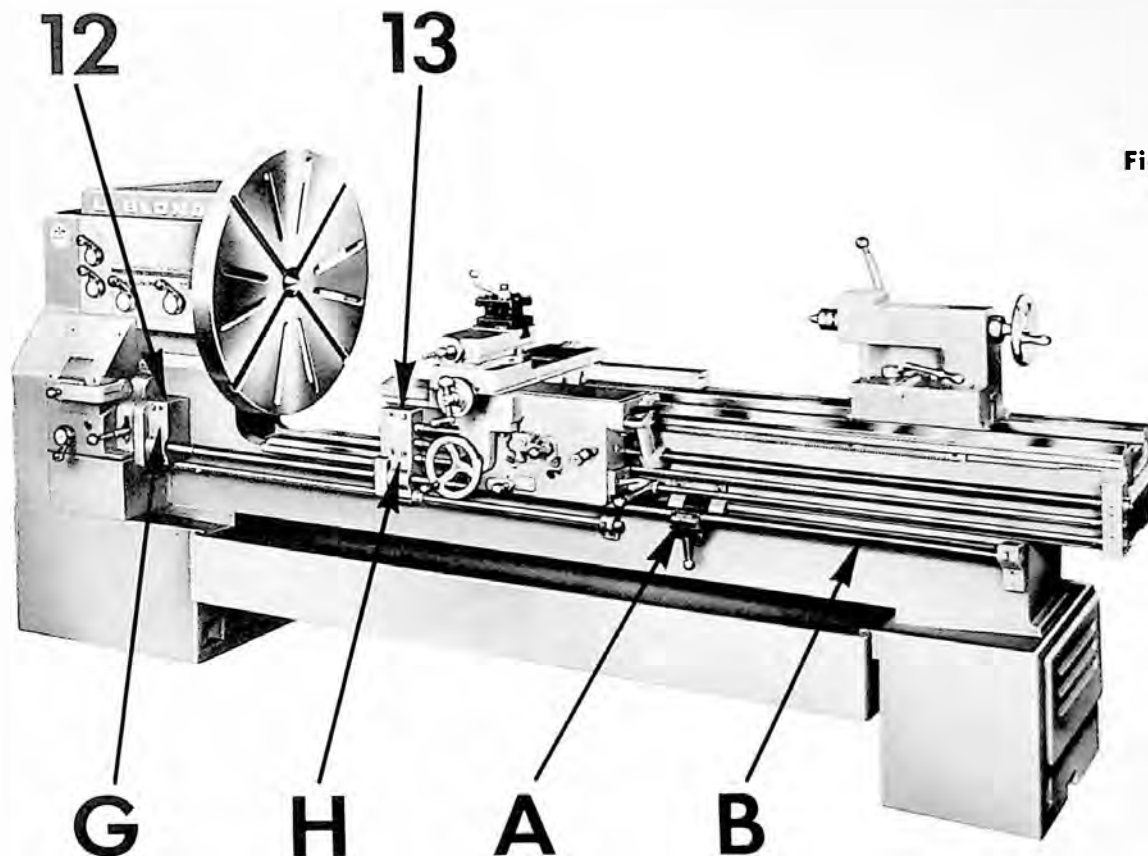

Fig. 20
(Fig. 20)
Lever (A), Fig. 20 engages the traverse nut to